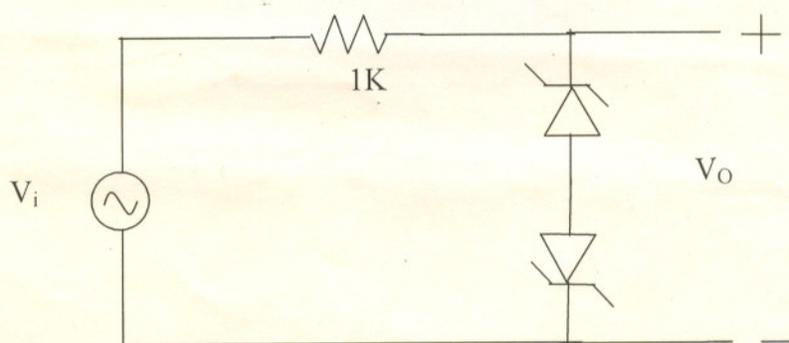

Fig. 1.4
3. Construct the circuit shown in Fig. 1.4 and repeat the procedure in step 1 and 2.
2. Sketch the output voltage of the circuit of Fig. 1.4 if $V_i = 5 \sin(2000\pi t)$.
3. How will V_o change if the polarities of the two Zener diodes in the circuit of Fig. 1.4 are reversed?